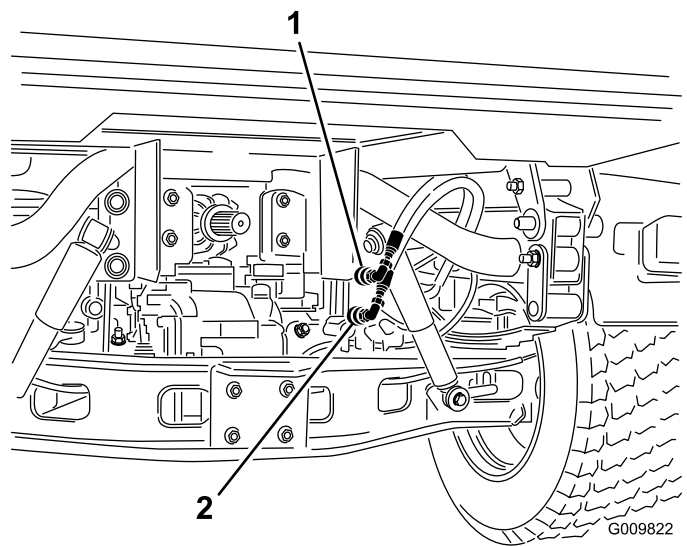

Figure 66
2. On both machines, disconnect the 2 quick-coupler hoses from the hoses secured to the coupler bracket (Figure 66).